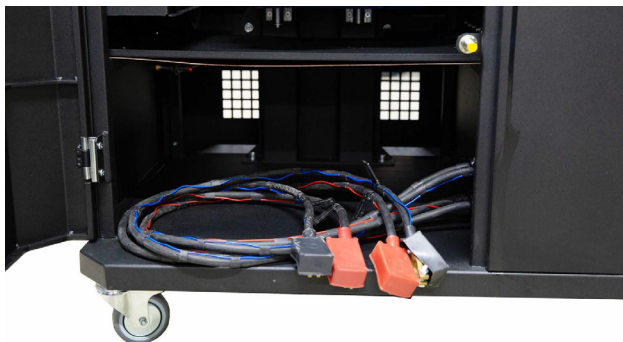

Figure 13. Location of the storage batteries in the bench.
- Storage batteries 12V that have to be located in the storage battery section of the bench (fig. 13). The left door is opened with the keys (included to the supply slip). While connecting the storage batteries refer to the power cable markings. If only one storage battery is connected just 12V diagnostic mode will be available, 24V diagnostic mode will be unavailable.